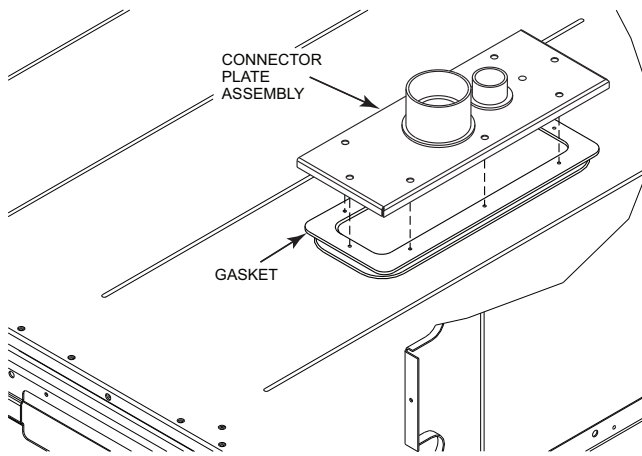

Fig. 35 — Installing Thru-the Base Option
3. Place the gasket over the embossed area in the basepan, aligning the holes in the gasket to the holes in the basepan. See Fig. 35.